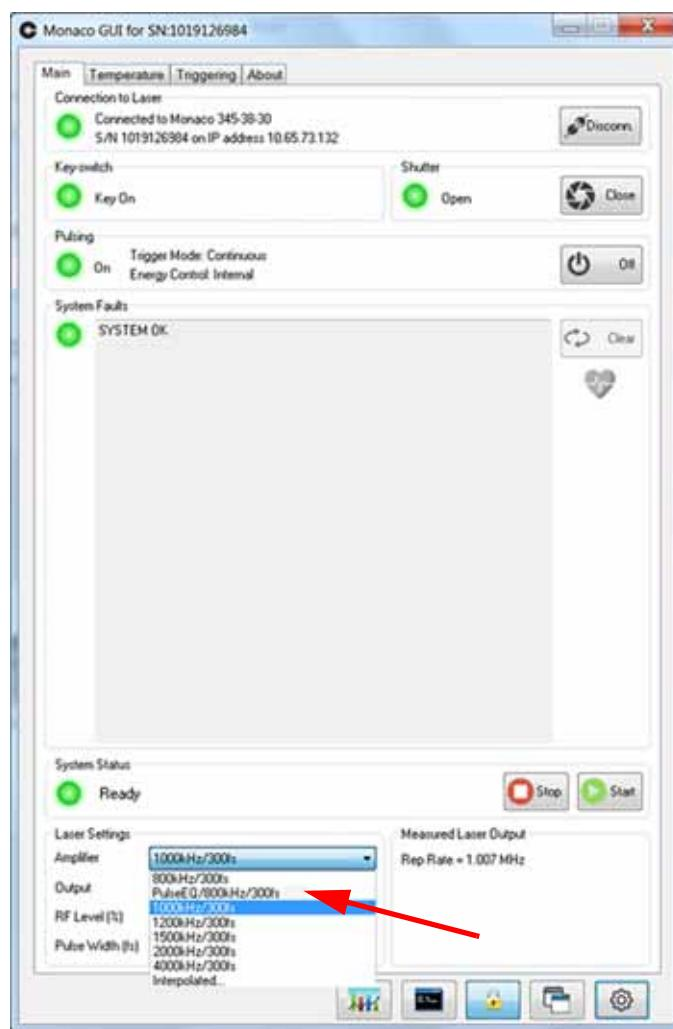

Figure 1.3-5. Choosing PulseEQ Mode
- After firmware Release 39, PulseEQ does not require powering down the laser. The process was simplified to choosing the PulseEQ mode desired from either the drop down menu on the main table of the GUI (see Figure 1.3-5 below), or by using the serial command SET to choose the row of the LUT (e.g. “SET=PulseEQ/800kHz/300fs”).